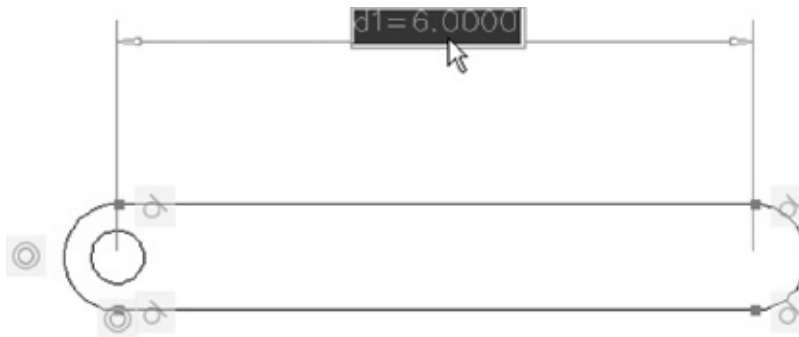

FIGURE 16.13 Double-click the dimension value.
1. Double-click the dimension value of the dimensional constraint (see Figure 16.13).